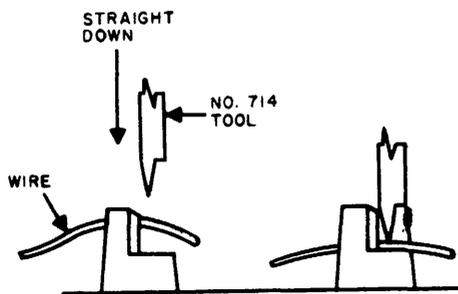

Figure 36. No. 714 Tool Used with Station Wire.
- (e) Using a No. 714 Tool (Figure 36) or equivalent, push the wire straight down until the wire is cut off. The connection to the U-contact is made. (A screwdriver can be used and the wires trimmed with wire snips.) Repeat until all the wires are connected.